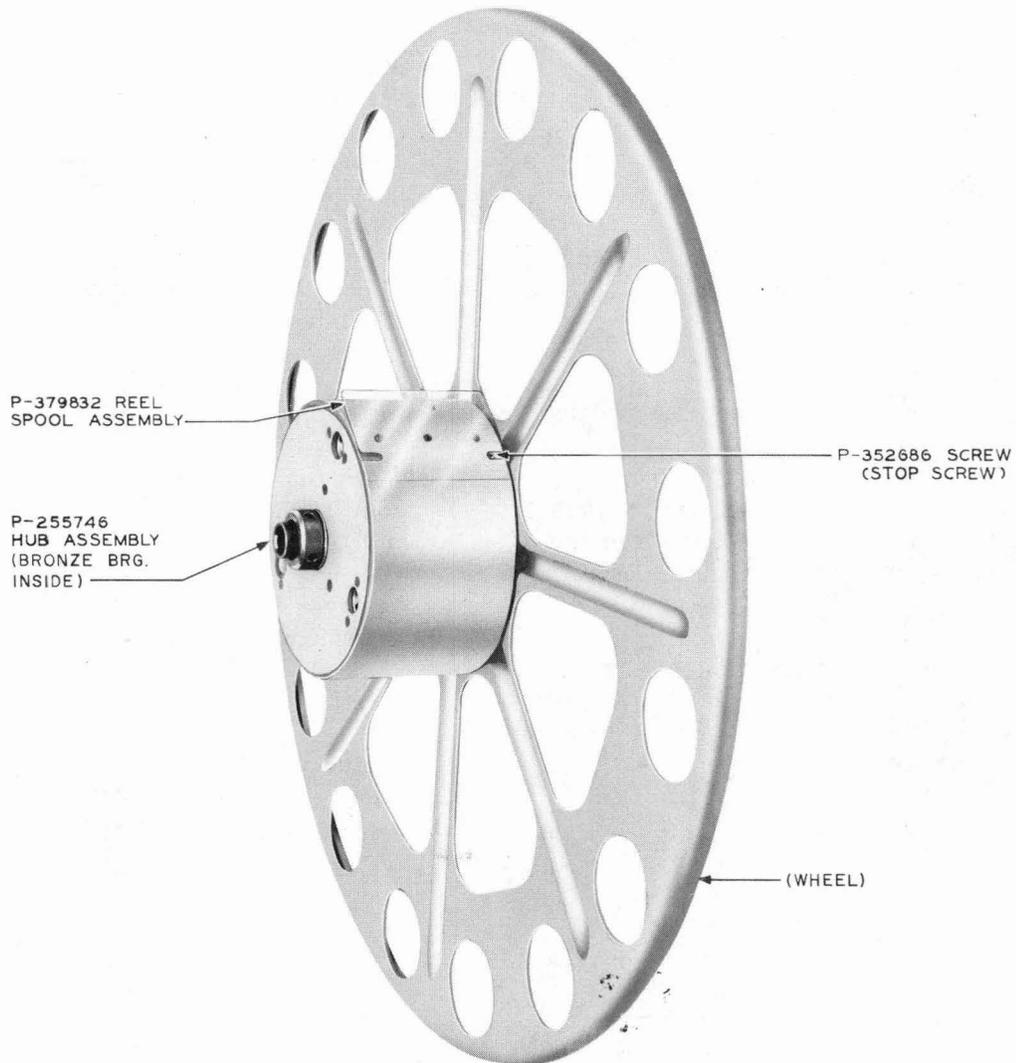

Fig. 5—ED-40008-01 and ED-40014-01 (Mfr Disc.) (22-Inch Reel Illustrated With Wheel Assembly Removed)
- (2) Remove the reel spool assembly (Fig. 5).
- (3) Slide the new reel spool assembly into position on the hub assembly so that the notch in the reel spool assembly is lined up with the stop screw.
- (4) Remount the wheel assembly, and lock the fasteners.
**4.14 Hub Assembly (Fig. 5)**